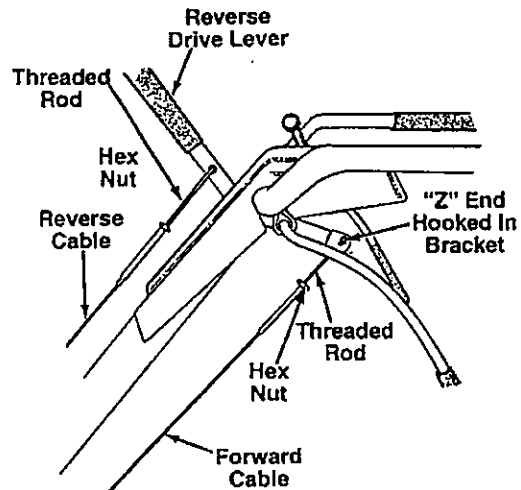

FIGURE 4
1. Loosen the hex nut on the threaded rod near the end of the cable, and move it up the rod as far as it will go. See figure 4.